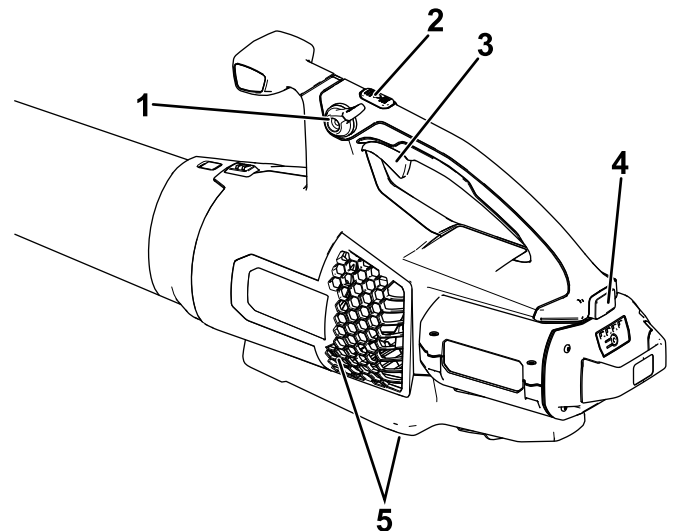

Figure 4
2. To start the blower, squeeze the variable-speed trigger (Figure 4).
Note: Engage the speed lock to keep the machine on without pressing the variable-speed trigger (Figure 4).
To achieve maximum performance (air speed) , press and hold the turbo boost button for the desired amount of time (Figure 4).
To adjust the air speed as you blow, use the variable-speed trigger (Figure 4).
To maintain the current air speed, engage the speed lock (Figure 4).
To shut off the blower, disengage the speed lock (if in use) and release the variable-speed trigger (Figure 4).